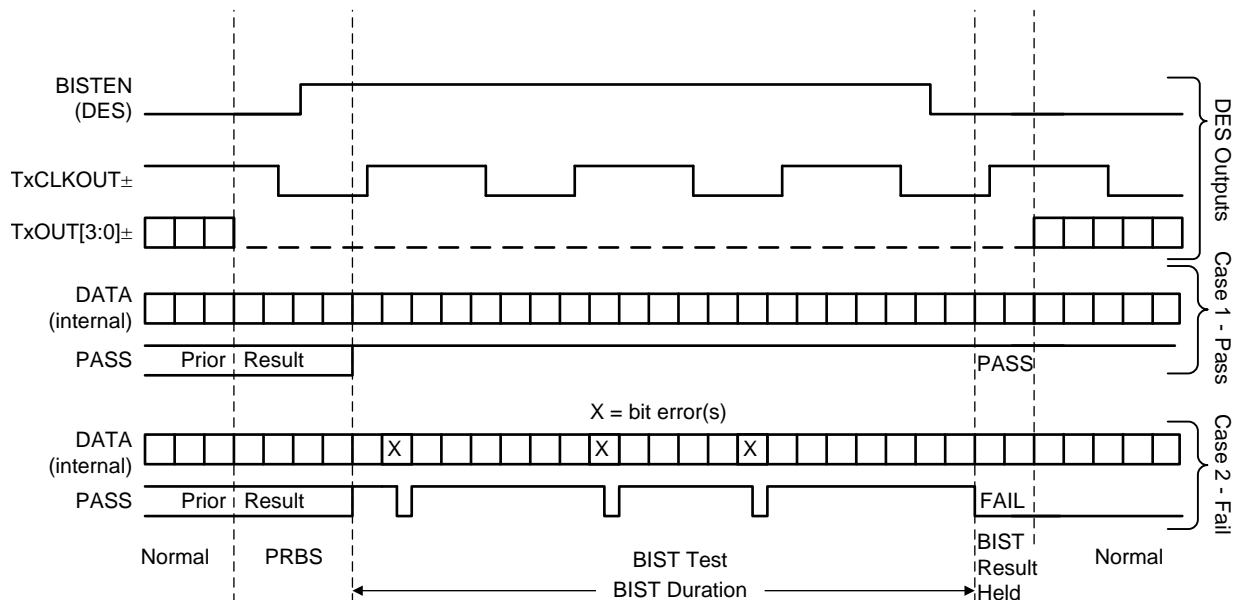

图 19. BIST Waveforms in Conjunction With Deserializer Signals
Step 4: The link returns to normal operation after the deserializer BISTEN pin is low. 图 19 shows the waveform diagram of a typical BIST test for two cases: Case 1 is error-free, and Case 2 shows one with multiple errors. In most cases, it is difficult to generate errors due to the robustness of the link (differential data transmission and so forth), thus they may be introduced by greatly extending the cable length, faulting the interconnect medium, or reducing signal condition enhancements (Rx Equalization).